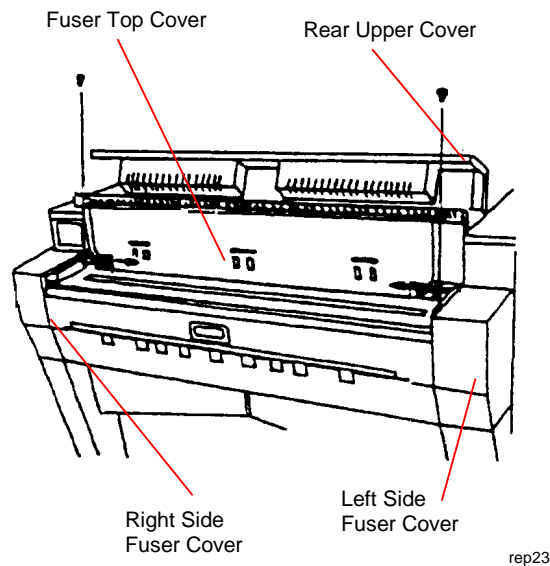

Figure 1. Removing the Covers
1. (Figure 1): Open the Rear Upper Cover and the Fuser Top Cover.